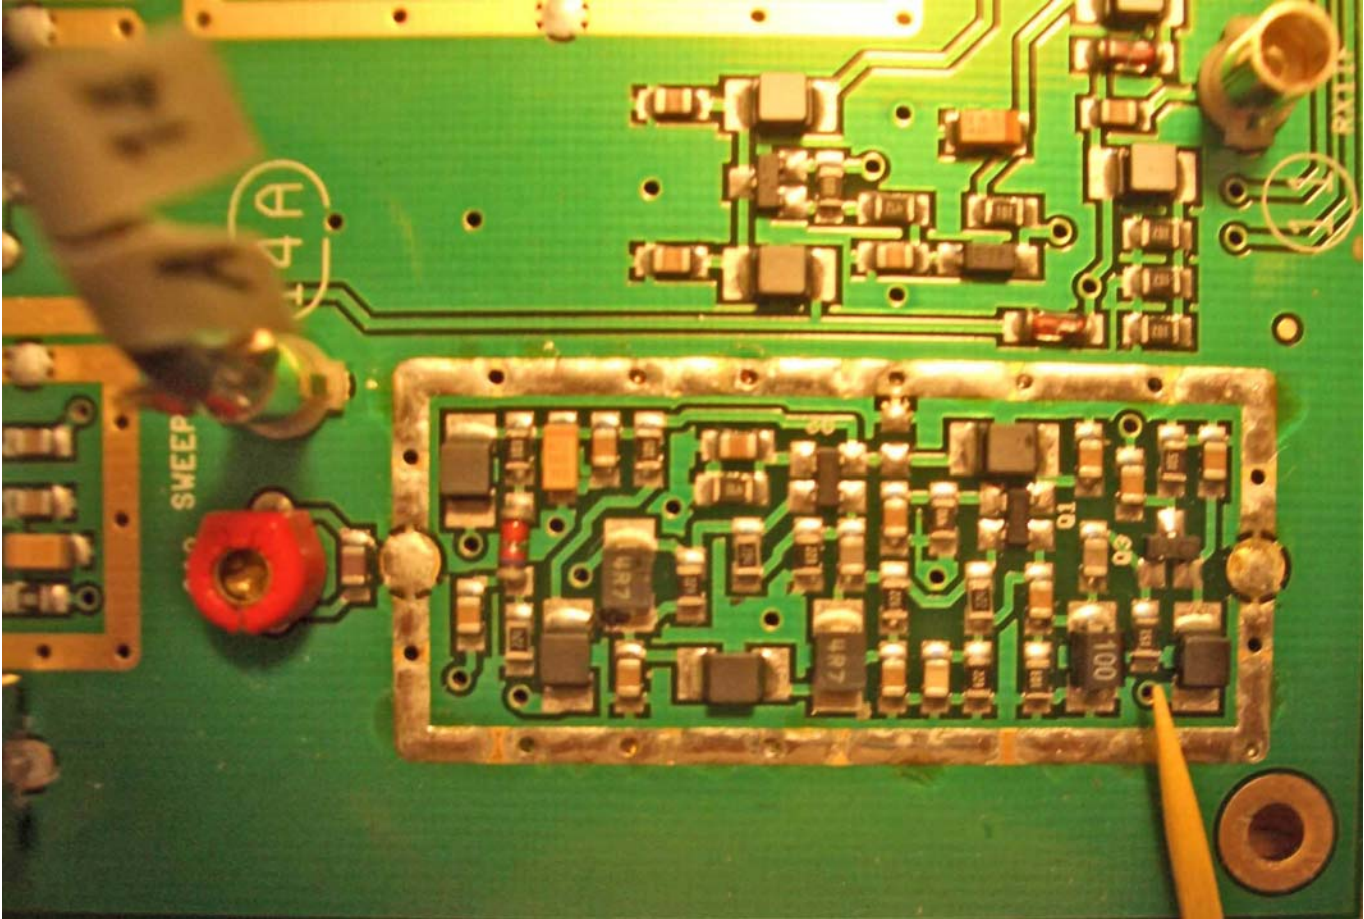

Figure A-2: Location of R26
7. **Note** the rectangular area directly between the **14A** connector jack and the front edge of the IF board (immediately to the left of the 1.8 kHz roofing filter). The pointer tip in Figure A-2 shows R26.